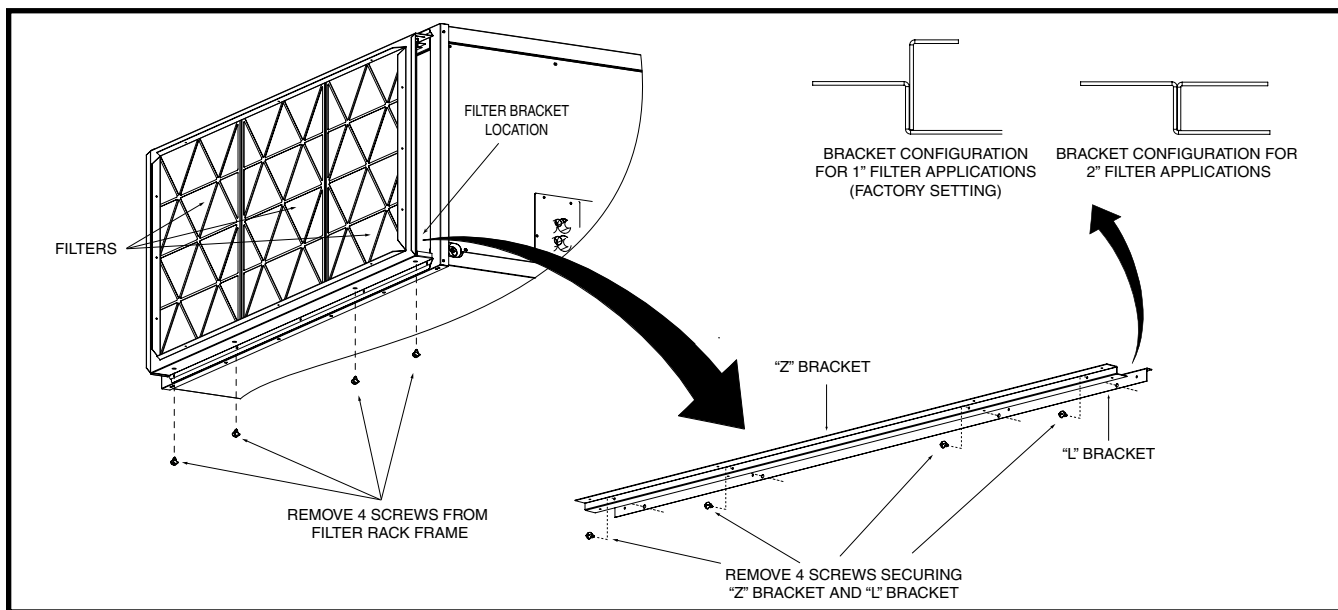

Figure 1. Converting from 1" Filter to 2" Filter Applications
B5SM air handlers are shipped with three permanent 1" filters; however the filter rack can be converted to accommodate a 2" filter as shown in Figure 1 (page 6). To convert to a 2" filter:
2. Locate and remove the 4 screws (Figure 1, page 6) holding the bottom filter slide assembly (latch end) to the filter rack frame. **NOTE:** Be careful when removing the slide assembly so it does not drop into unit and cause damage to the coil.
4. Rotate the "L" bracket 180 degrees, and reposition it so it mounts flush with the "Z" bracket. See Figure 1.